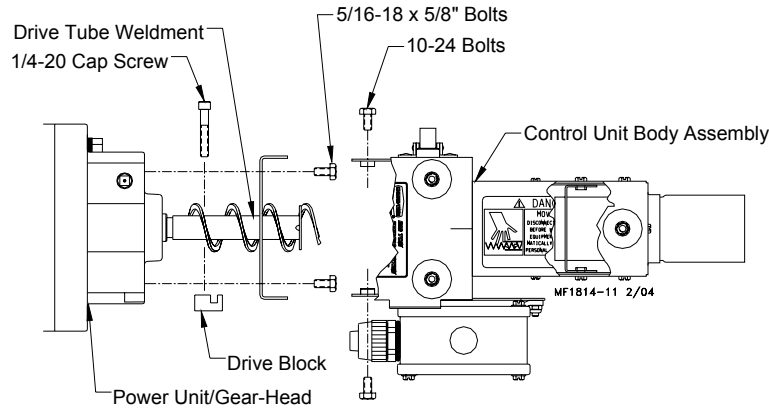

Figure 28. Control to Power Unit Ass'y
1. Remove the four 5/16-18x5/8" bolts from the parts package and use them to bolt the Anchor Plate to the Power Unit. Install the Anchor Plate with the angled end pointing down, **see figure 28**.
2. Bolt the Control Unit Body Assembly to the Power Unit, using hardware supplied, see figure 28.
9. Mount the control unit on the end of the feeder line and secure with a tube clamp. See figure 28 (on page 20). The distance between the control unit pan and the last pan should be five feet (1.5 m) or less.